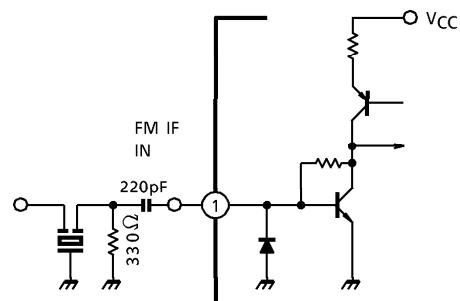

Fig.1
**APPLICATION NOTE****(1) FM-IF input stage**
The terminal pin① is the FM-IF input terminal which is the base of common-emitter transistor. (Fig.1)
**(2) FM-IF stage**